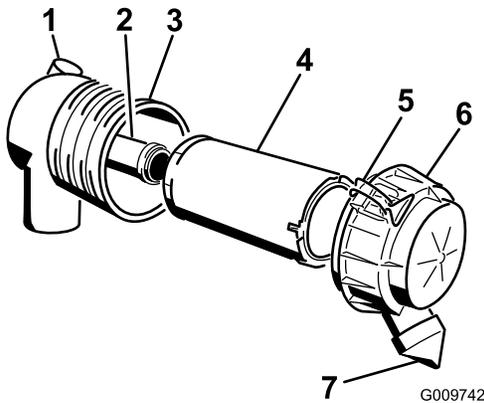

Figure 55
1. Gently slide the primary filter out of the air-cleaner body (Figure 55).
4. If you are replacing the safety filter, carefully slide the new filter into the filter body (Figure 55).
6. Install the air-cleaner cover with the side indicated as “UP” facing upward and secure the latches (Figure 55).